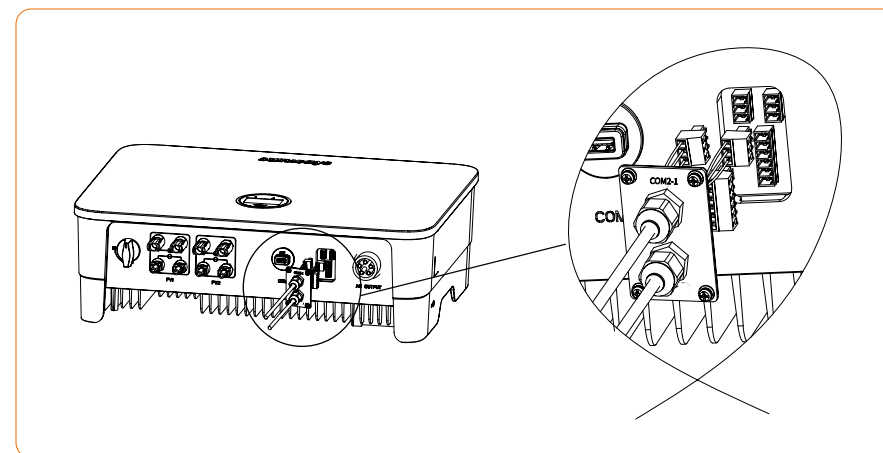

Figure 4-24
- ③ Insert the cable to the port in the 3/6pin connector and fasten with a screwdriver.
- ④ Insert the 3/6pin connector into the 3/6pin connector inside the inverter, and screw the COM2 plate back with a cross screwdriver, as shown in Figure 4-24: